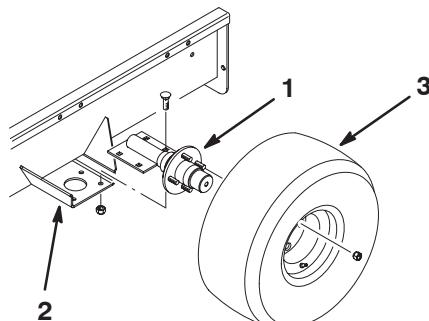

Figure 2
- Mount a axle to mounting bracket on each side of trailer bed with (4) carriage bolts and locknuts (Fig. 2).
- Mount a wheel assembly to each axle hub with (4) lug nuts (Fig. 2). Tighten nut to 80 ft/lb. Inflate tires to 5 psi.